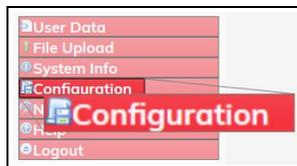

Figure 152: Configuration link
4. On the **Menu** list, click the **Configuration** link. Figure 152